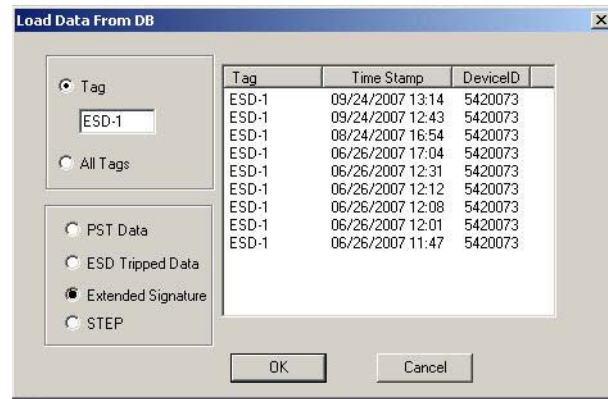

Figure 240 - Load from DB
4. Click **Load from DB** and the dialog appears (*Figure 240*).